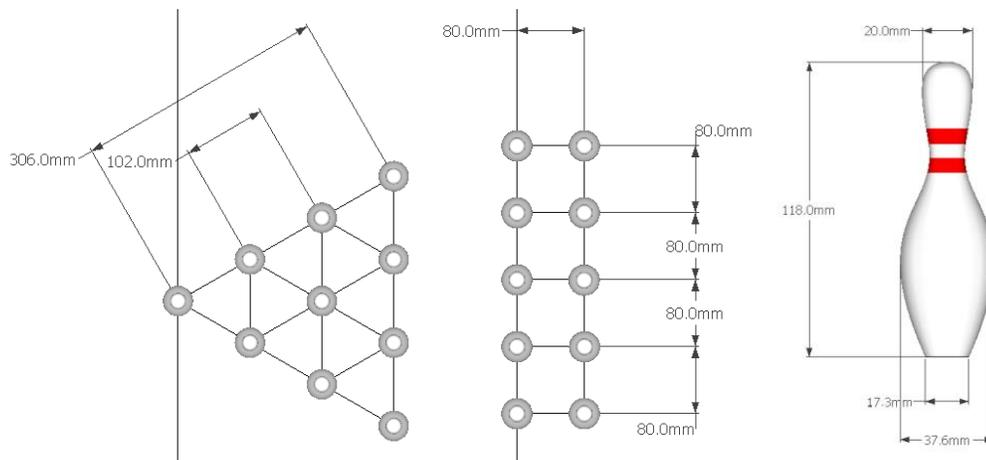

Figure 6 Specifications of wooden bowling pins (± 3 mm)
- 4.7. During standard rounds, the pin area will hold 10 white wooden bowling pins with two red stripes (figure 6); in the fifth game of the final round, an extra three identical bowling pins will be placed at the marked obstacle pin locations 909 mm in front of the ball rack, while employing the same bowling pins and spacing. The remainder of the setup will be entirely the same as in standard rounds.